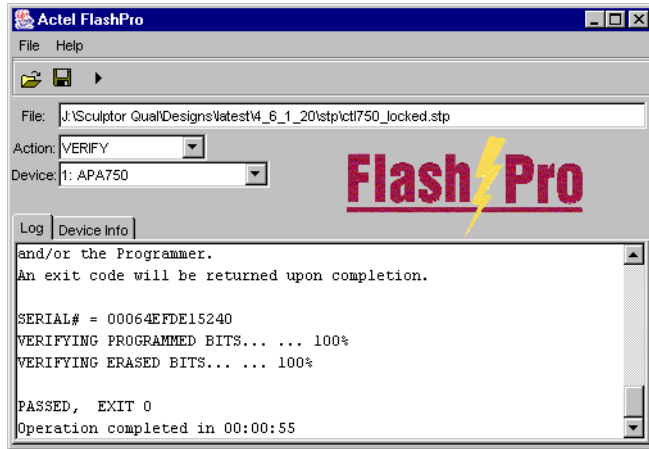

Figure 2-13. Successful Verification
4. **Click *Execute* to start the verification process.** A successful verification will result in Exit 0, as shown in Figure 2-13. If the STPL file is different from the file used for programming, Exit 11 appears in the Log window (see “Error Messages & Trouble Shooting Tips”, “Exit 11” for more details).